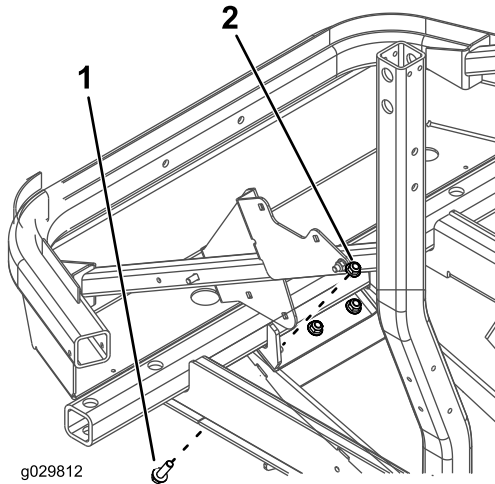

Figure 1
1. Remove the existing 3 bolts and 3 nuts from the skid assembly (Figure 1).